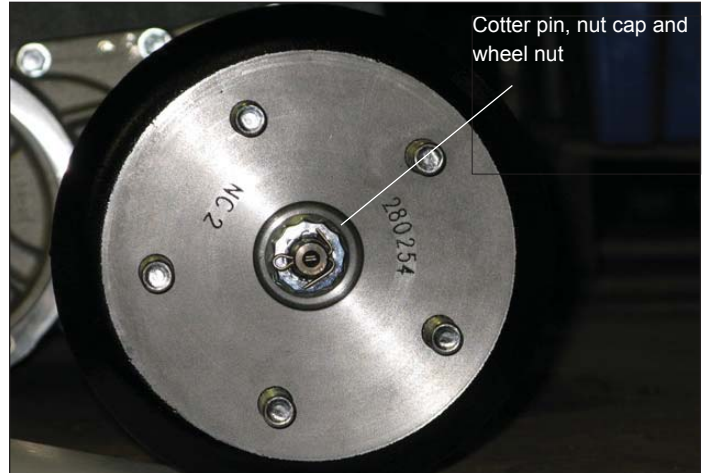

Figure 5-6. Removing Brake Drum
3. Remove cotter pin, nut cap and wheel nut (Figure 5-6). Remove brake drum by pulling straight out. Tap drum from back side if necessary.
11. Rotate caliper with rotor centered in brake pads and install caliper upper mounting hardware (Figure 5-6).